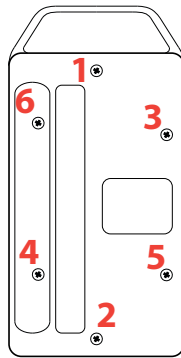

Figure 4-4 Screw tightening sequence.
- b. Tighten the screws in the sequence shown in Figure 4-4. This will ensure that the gaskets are tightened properly to maintain a watertight seal.